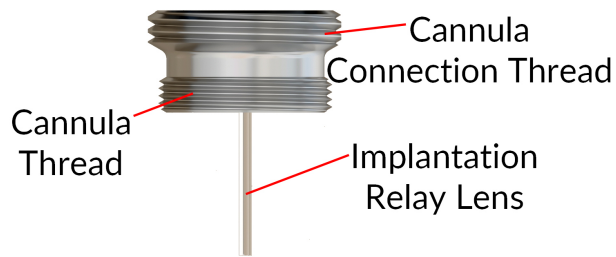

Figure 2.2: Twist-on efocus Type-L Imaging Cannula
- The **Connection System** allows the removal of the microscope body from the cannula between each imaging session without affecting image position. The **Cannula Connection Thread** (Fig. 2.2) is used to secure the microscope body in place using the **Microscope Barrel**.
- The **Relay lens** (Fig. 2.2) is an image relaying gradient-index rod lens that brings the image of deep structures located inside the brain to the skull surface.
- The **Cannula Thread** (Fig. 2.2) is used to secure the cannula in a *Protrusion Adjustment Ring*. Protrusion adjustment rings are used to support the cannula when there is a gap between the surface of the skull and the base of the cannula. It reduces the amount of dental cement necessary to secure the cannula on the skull.